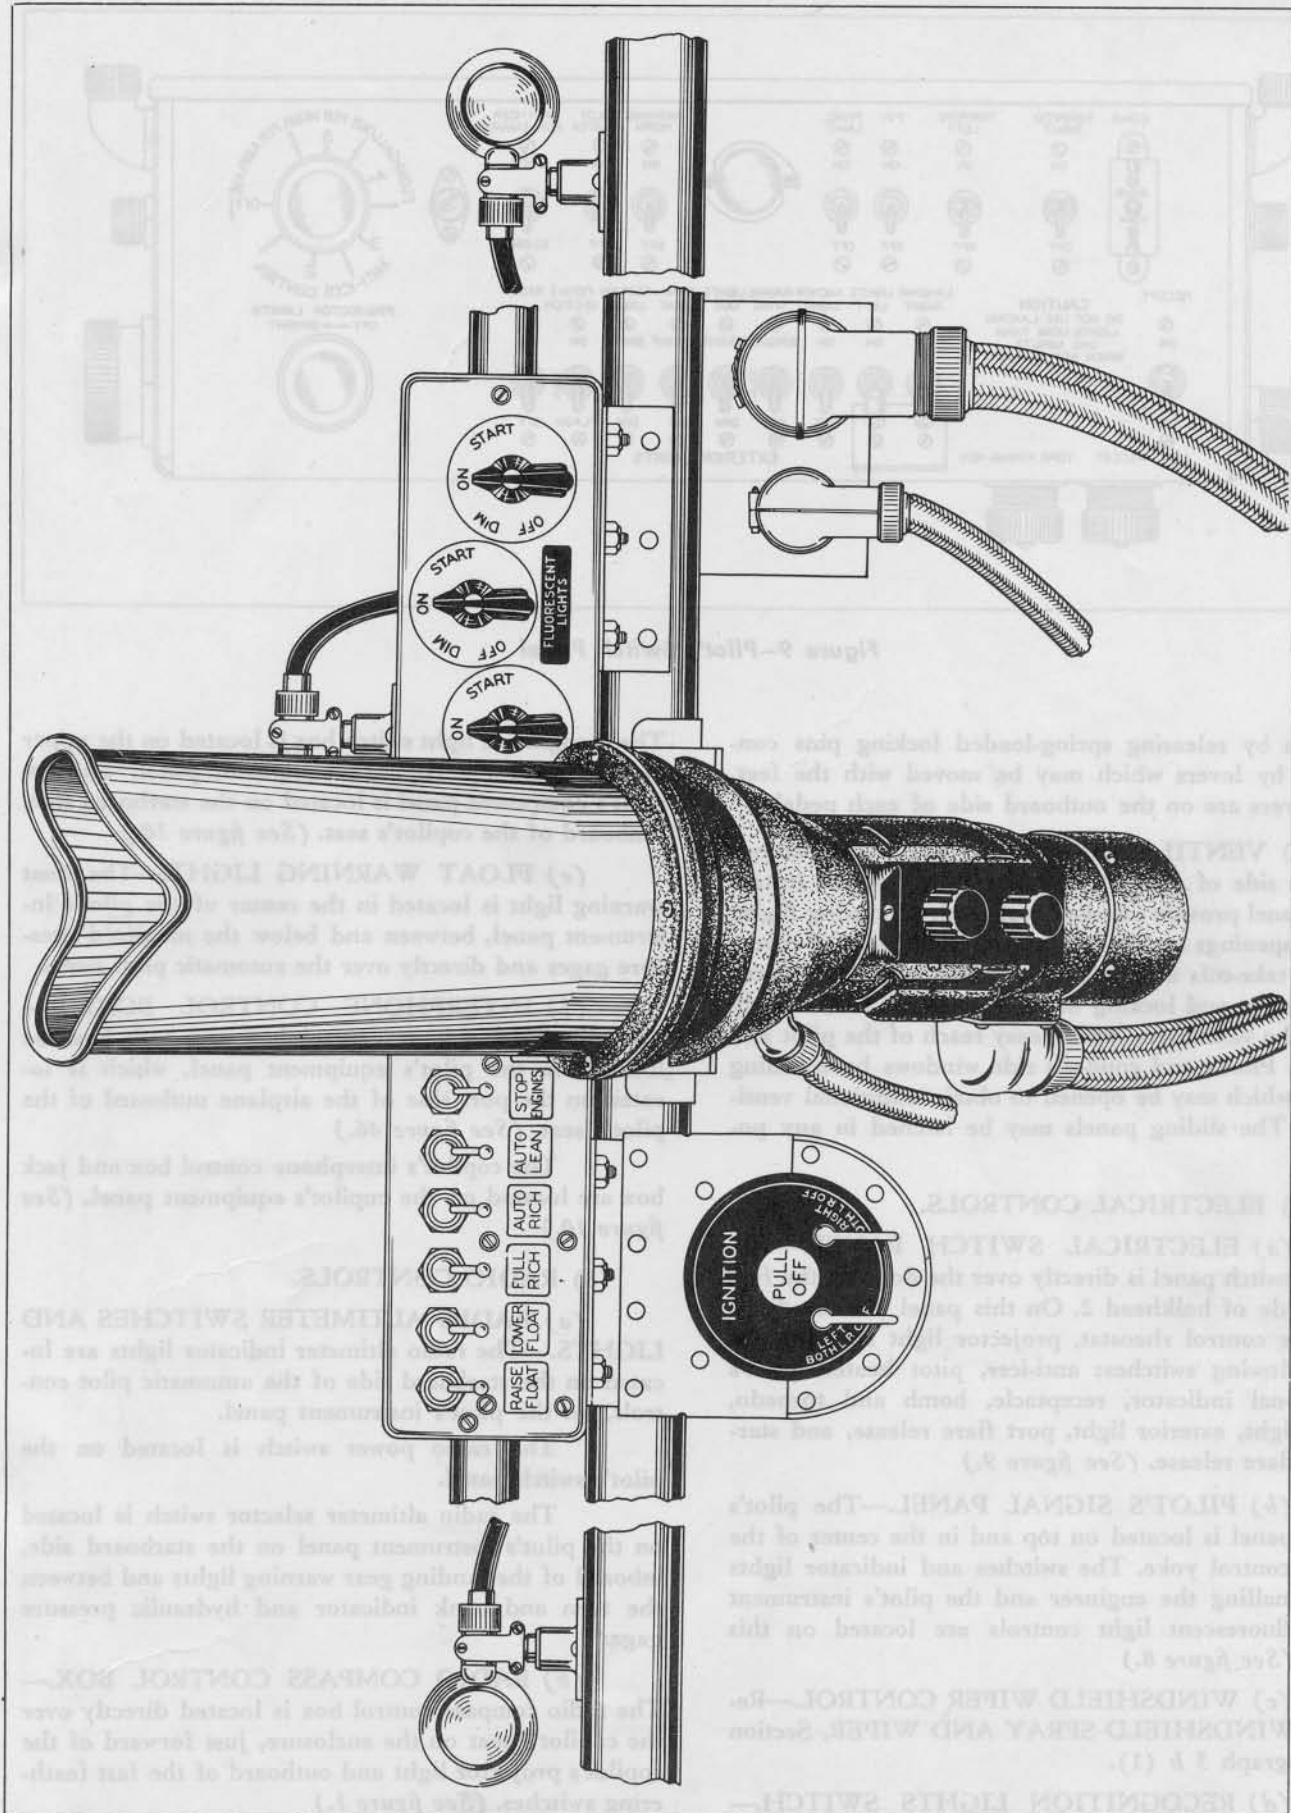

Figure 8—Pilot's Control Yoke
(5) ELECTRICAL CONTROLS.—The ignition switch is located on the pilot's control yoke, on the port side of the pilot's visual indicator, just below the pilot's signal panel. (See figure 8.)
(b) PILOT'S SIGNAL PANEL.—The pilot's signal panel is located on top and in the center of the pilot's control yoke. The switches and indicator lights for signalling the engineer and the pilot's instrument panel fluorescent light controls are located on this panel. (See figure 8.)